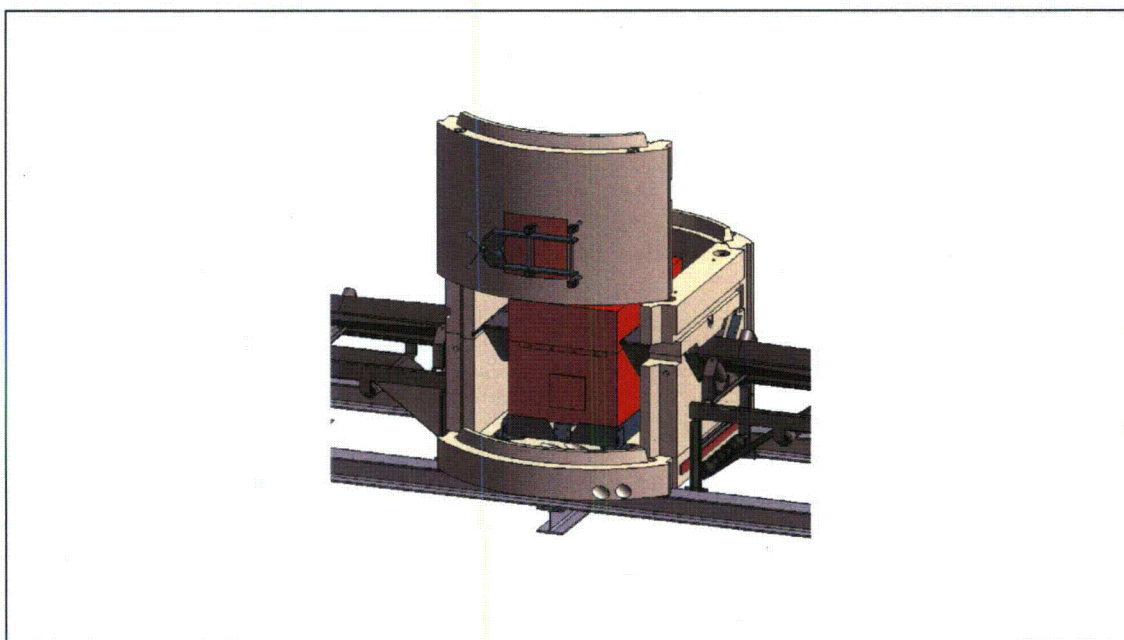
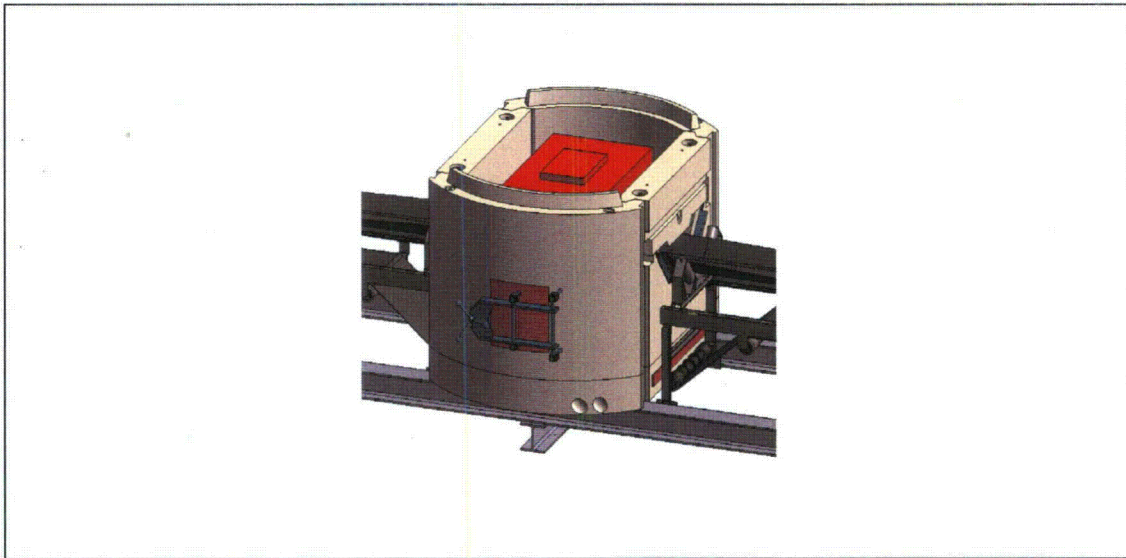

Figure 51 - Side wall with door
Figure 52 - Side wall with door, installed
- ☐ Now mount the side wall with a door in the same sequence (Figure 51 and Figure 52 ). The maintenance door provides access to the tube.